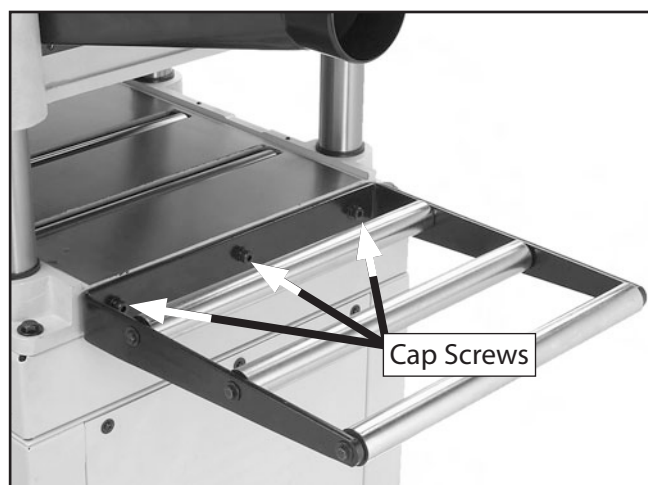

Figure 13. Extension roller installed.
1. Attach the extension rollers to the planer table with the M8-1.25 x 20 cap screws, lock washers, and flat washers, as shown in **Figure 13**, but do not fully tighten the cap screws.